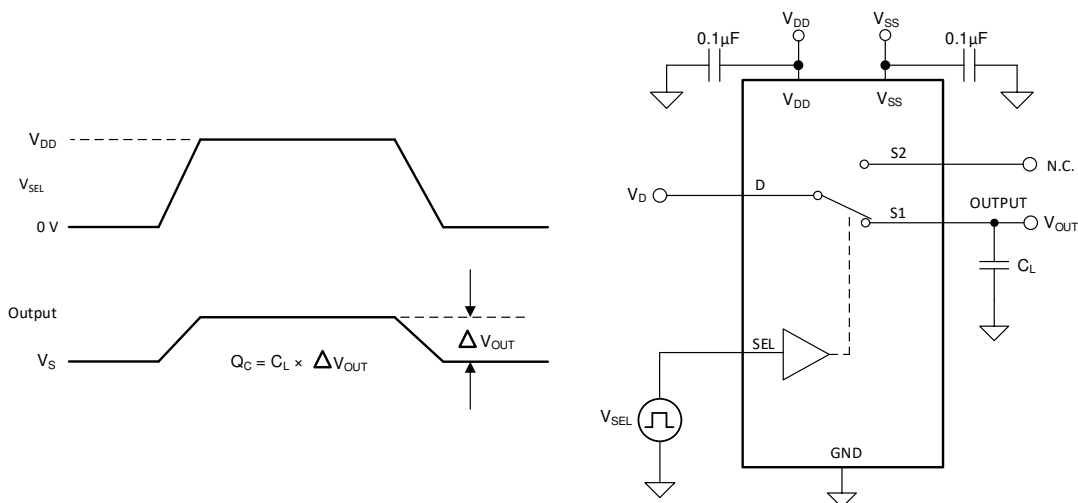

图 6-6. Charge-Injection Measurement Setup
The TMUX1119 has a transmission-gate topology. Any mismatch in capacitance between the NMOS and PMOS transistors results in a charge injected into the drain or source during the falling or rising edge of the gate signal. The amount of charge injected into the source or drain of the device is known as charge injection, and is denoted by the symbol  $Q_C$ . 图 6-6 shows the setup used to measure charge injection from Drain (D) to Source (Sx).